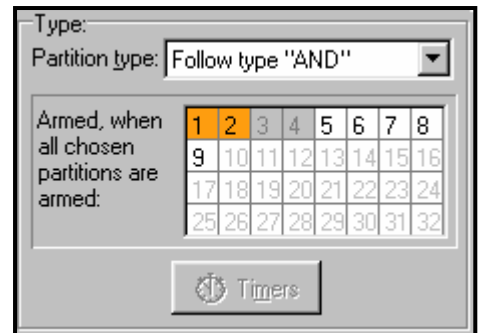

Fig. 3. Definition of *Follow type "AND"* partition.
- **Follow type "AND"** – the partition controlled by statuses of other partitions. Arming for this partition is not done directly by the user, but automatically – when all partitions indicated to the control panel become armed. The list of partitions is defined by the service when creating the dependent partition. The time of dependent partition arming is recorded in the event log, indicating the user who armed the last partition from the list. When any partition from the list is disarmed, the dependent partition will be disarmed as well. Figure 3 shows the selection field of partitions that control partition 3 (partitions 1 and 2 are selected, other colors of background for partitions 3 and 4 show that partitions 3 and 4 cannot be selected for controlling the dependent partition) For *Follow type "AND"* partition no exit delay is defined – the moment of switching over from “exit delay” to “armed” for this partition is set by the last partition from the control list entering the armed status. The dependent partitions cannot be controlled by timers.